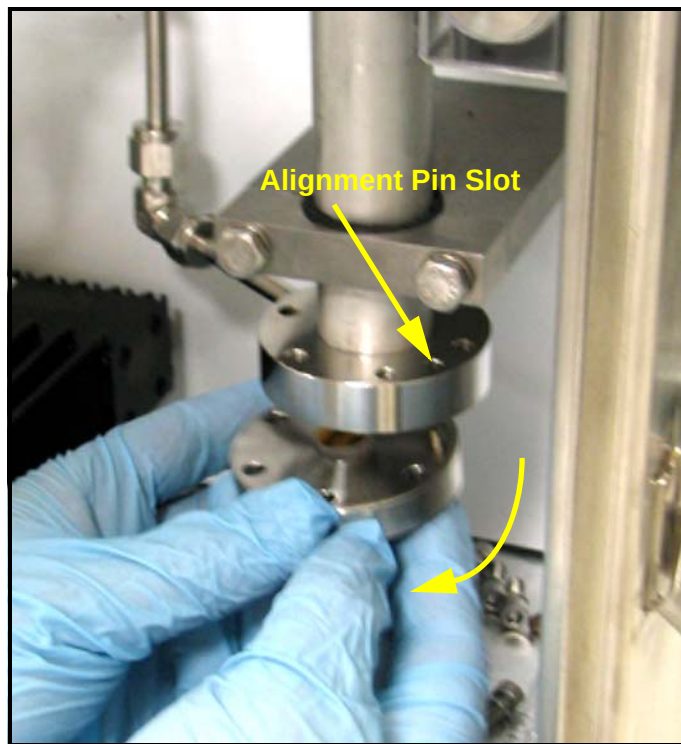

Figure 81: Reinstalling the Mirror Assembly
14. As you line up the mirror to the measurement cell, note the “key” for properly connecting the two pieces. The mirror will align for mounting in only one position. Rotate the mirror assembly to line up the alignment pin with the alignment pin slot (see *Figure 81* below).